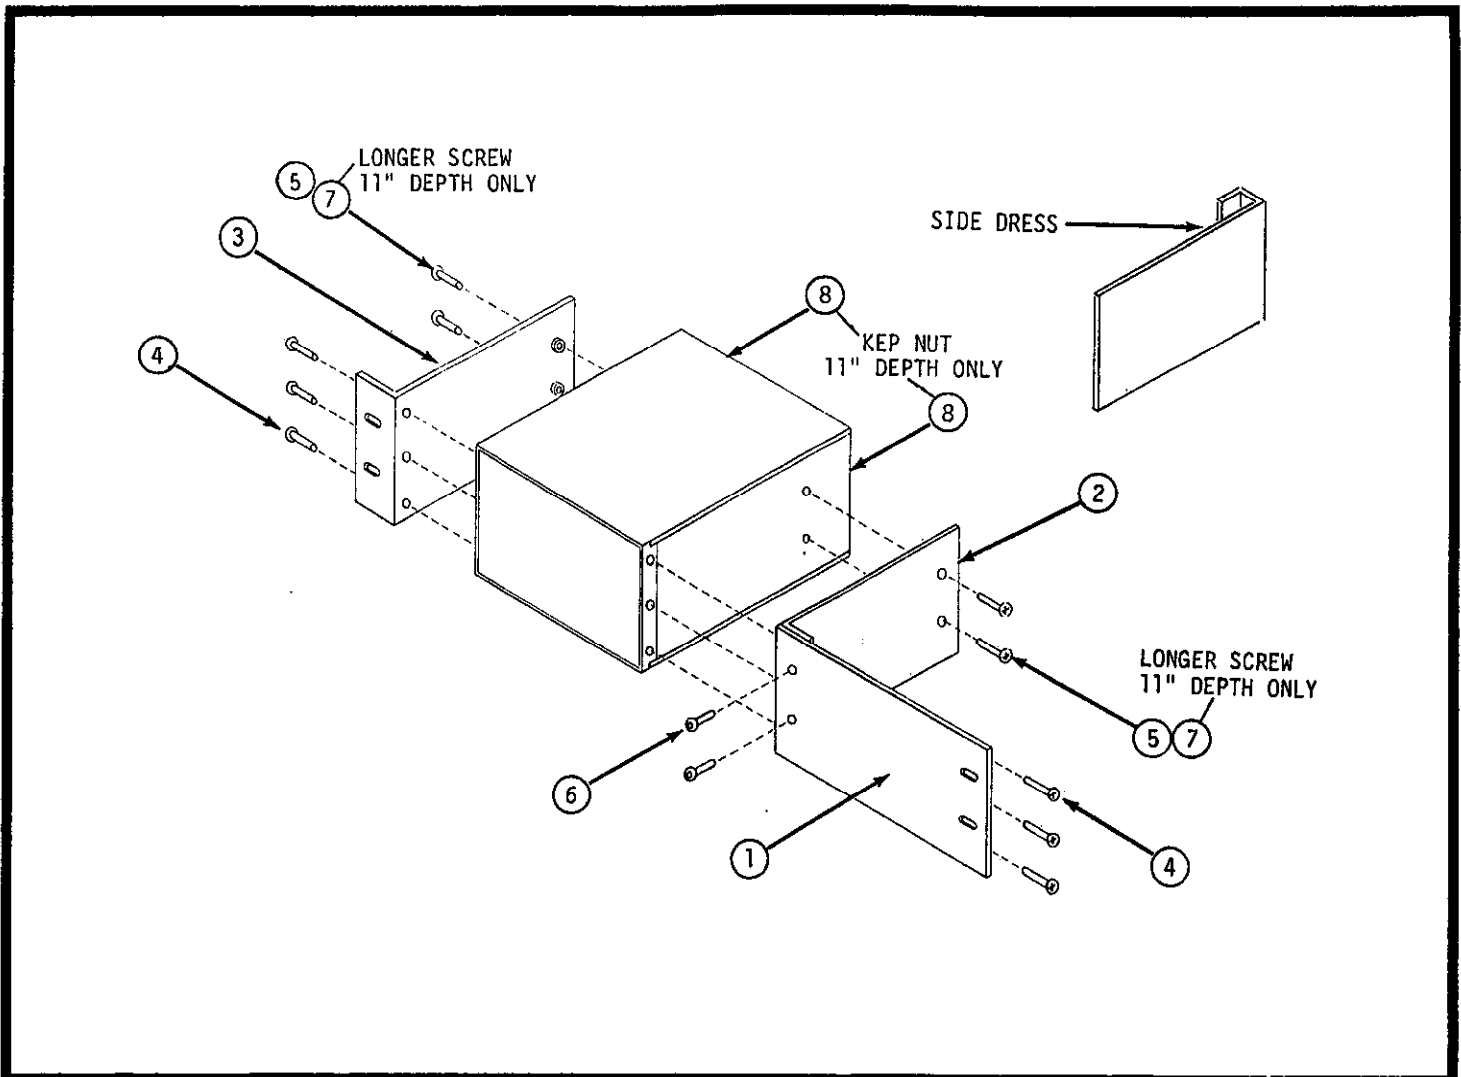

FIGURE 26. Model 1008 Single Rack Mounting Kit.
3. Secure Bracket Angles (left and right) to instrument. (Half Rack Panel may be located on the left or right to suit mounting requirements.) Use Phillips Screws (Items 4 and 5) as shown in Figure 26 for 14 in. depth instruments. Use longer screw (Item 7) and Keyp nut (Item 8) for 11 in. depth instruments.